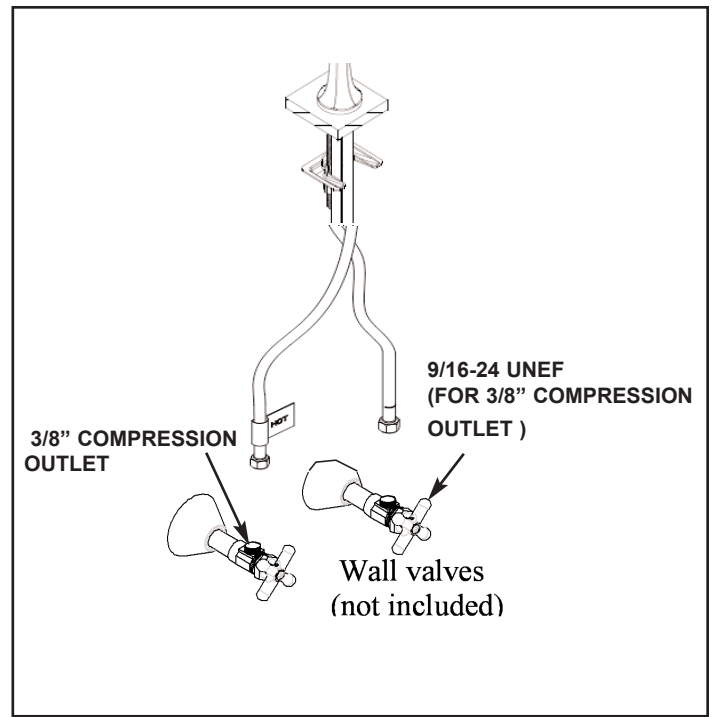

Figure 2
2. Attach hot/cold spout supply hoses to valves in the wall. **See Figure 2.**